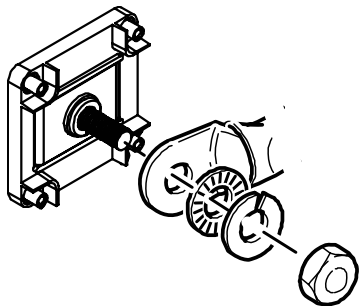

Figure 5 DC Cable Connections
Use only appropriately sized copper cable. Loose connections or improper connections will overheat. Make sure the bolts supplied by Xantrex on the inverter/charger are tightened to a torque of 15–16 ft-lbs (20.4–21.7 Nm). Torque all other connections to the manufacturer's specifications. Make sure the DC cable, washers, and bolt are assembled in the order shown in Figure 5.
4. Connect one connector on the POSITIVE (+) cable to the POSITIVE DC terminal on the inverter/charger, as shown in Figure 5. The connector goes on first, then the flat washer (steel), lock washer (steel), and 3/8" bolt (brass).
6. Connect one connector on the NEGATIVE (–) cable to the NEGATIVE (–) DC terminal on the inverter/charger, as shown in Figure 5. The connector goes on first, then the flat washer (steel), lock washer (steel), and 3/8" bolt (brass).